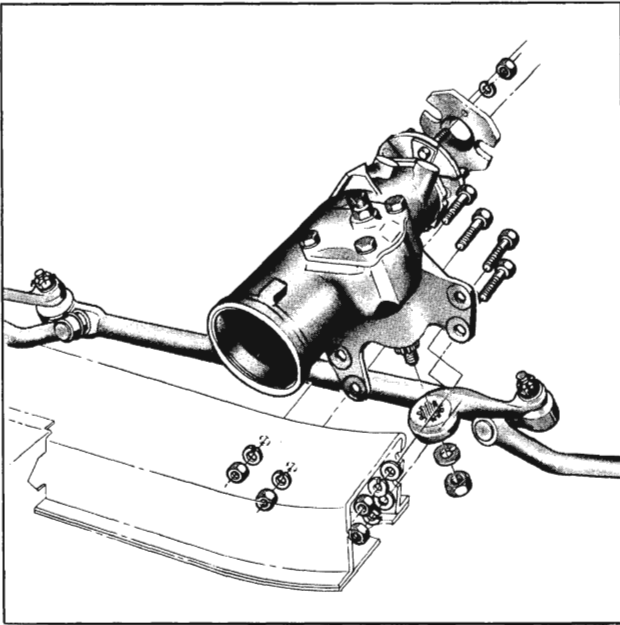

Fig. 4-249 Power Steering Gear Removal
5. Remove the 4 bolts attaching the gear to the front suspension cross bar, then remove the gear from the car. (Fig. 4-249)